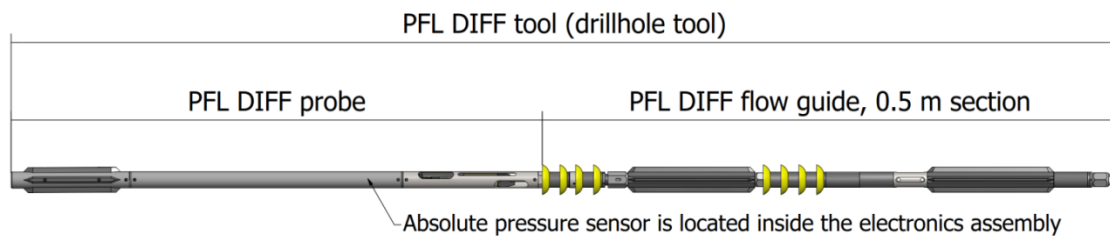

Figure 2-1. Technical illustrations of the PFL DIFF tool.
Unlike conventional borehole flowmeters which measure the total cumulative flow rate along a borehole, the PFL DIFF probe measures the flow rate into or out of defined borehole sections. The advantage that follows from measuring the flow rate in isolated sections is improved detection over the incremental changes of flow along the borehole. As these are generally very small, they can easily be missed when using conventional flowmeters. Technical illustration of the PFL DIFF probe is presented in Figure 2-1.
- The prevailing water pressure profile in the borehole. The pressure transducer is located inside the watertight electronics assembly and is connected to the borehole water through a tube, see Figure 2-1.
PFL DIFF probes (*Figure 2-1*) undergo the calibration process annually. The basic annual calibration includes the calibration of flow, electrical conductivity (EC), single point resistance (SPR), absolute pressure and temperature sensors. In addition to PFL DIFF probes, PFL trailers contain sensors that are used in measurements. These are the pressure sensor for borehole water level monitoring and the air pressure sensor. These are also calibrated annually. The PFL trailer has cable with length markings and due to possible changes caused by the stretching of the cable, the locations of length markings are checked as a part of calibration. The procedures for individual calibrations are listed below.